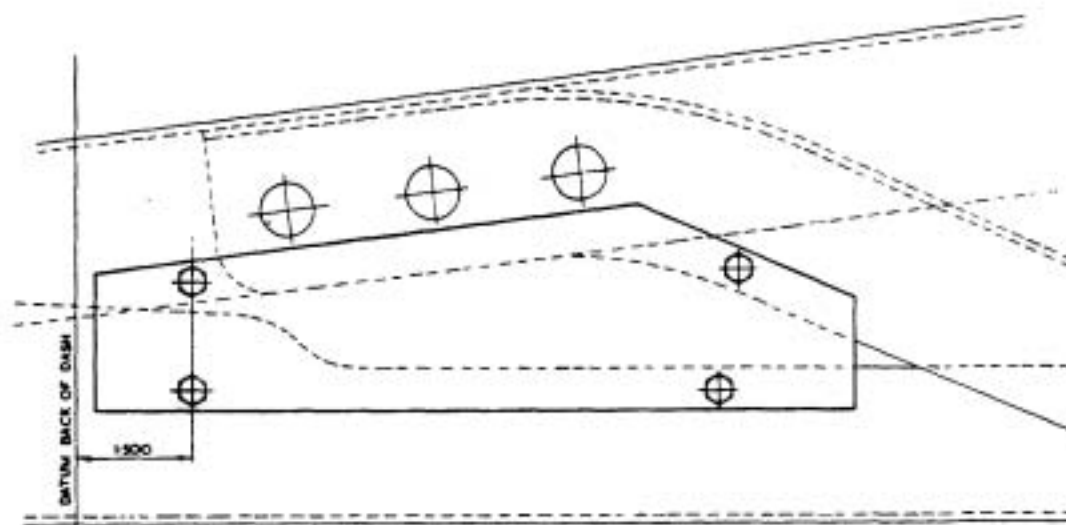

FIG. 1 FITTING OF UNDER-FRAME COVER PLATE.
1. Fit the under-frame cover plate (RP-6209) as shown in Fig. 1.